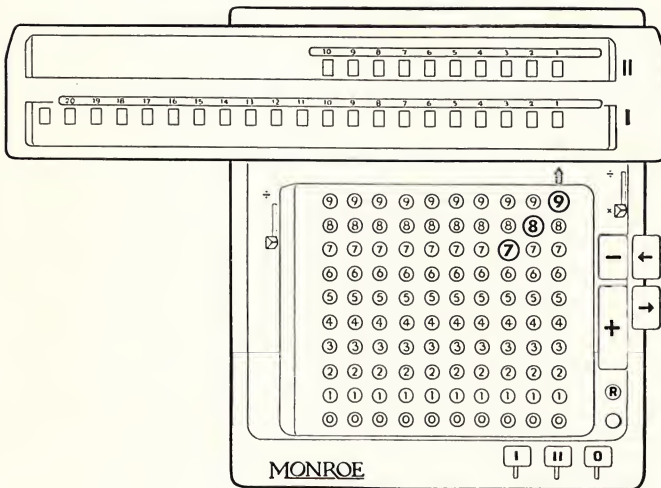

Figure 4
Step 1—With the carriage in “1” position set 789 on extreme right of keyboard, as shown in Figure 4. Hold plus bar down until 4 appears in upper dials.